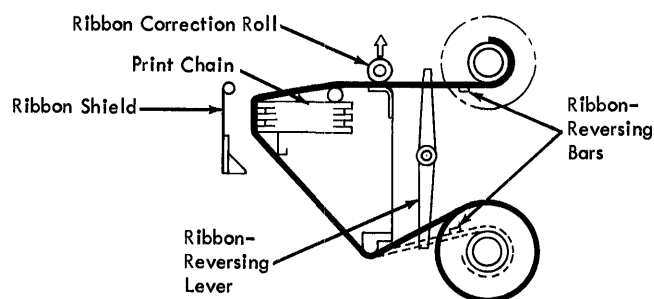

Figure 19. Installing a New Ribbon
*Note:* When installing a new ribbon in the printer, always load the full ribbon spool on the bottom spindle to assure proper ribbon skew on the first winding of the ribbon (Figure 19).